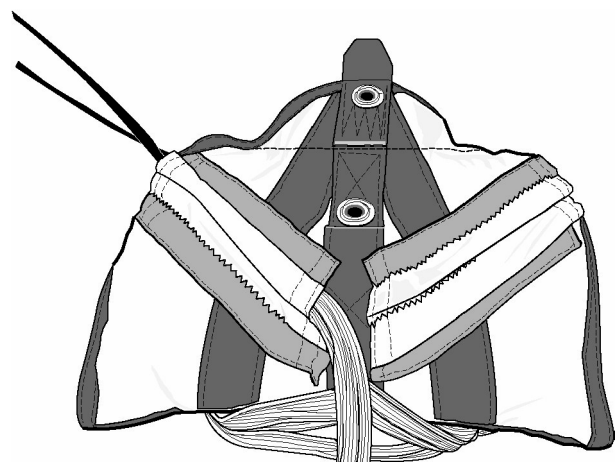

Figure 18. First Stow in Upper Left Stowage Flute
b. Route the suspension line group between the stowage flutes. Form a loop in the suspension line group; wrap pull up cord around the suspension line group and route pull cord up through the upper left stowage flute. Pull suspension line group through stowage flute until suspension line group is even with edge of stowage flute (Figure 18).